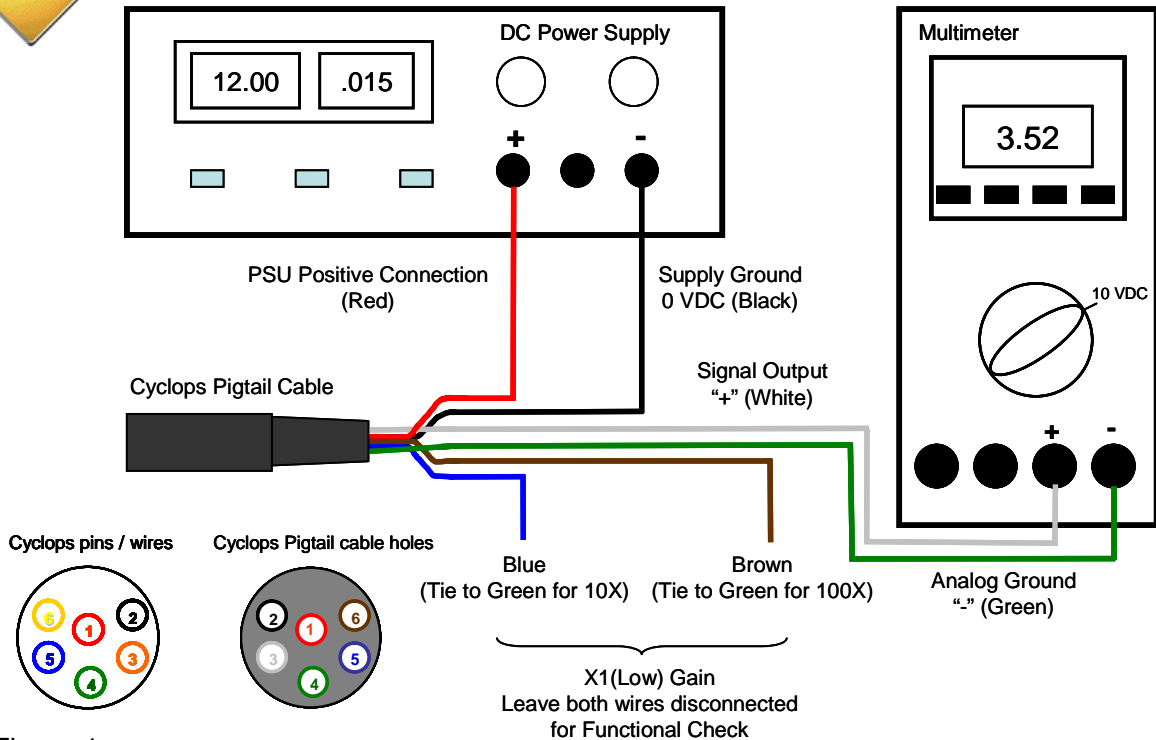

Figure 1.
To perform a functional check on the Cyclops-7F, connect the Pigtail colored wires to the power supply and multi-meter as shown in Figure 1 below.
With the Cyclops connected as shown in Figure 1 answer questions 1-3 by making the following functional tests:
- 1) For *in vivo* applications, take a natural sample of water from a sampling station where you plan to deploy the Cyclops-7F. Applying good measurement practices, store it properly and quickly transport it to a laboratory where you have the Cyclops connected to a multi meter and DC power source (see *Figure 1*).